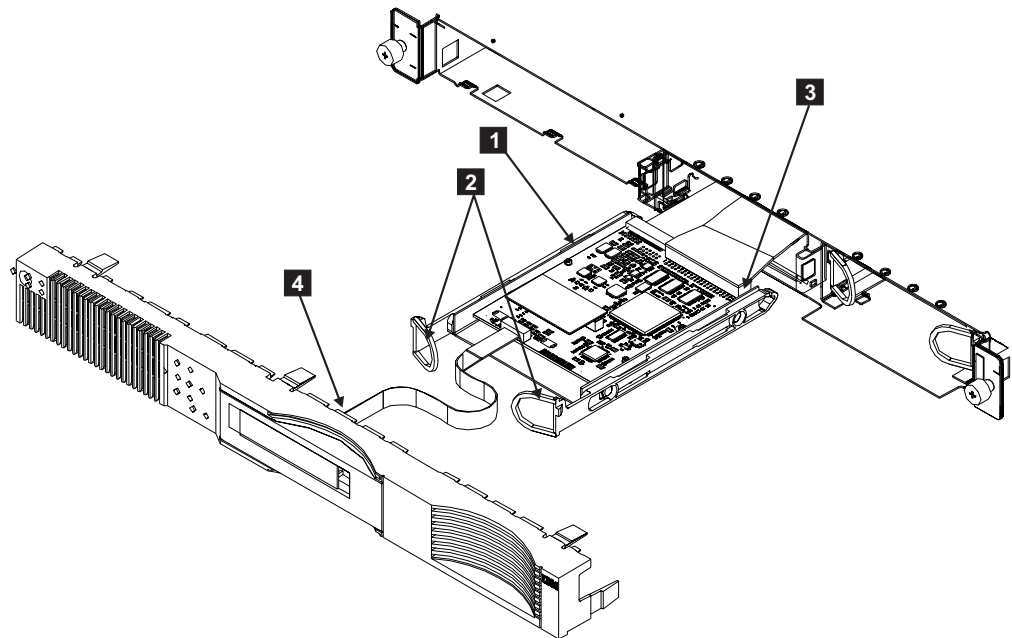

Figure 146. The SAN Volume Controller 2145-4F2 service controller
1. Carefully push the service controller (1 in Figure 146) into the SAN Volume Controller 2145-4F2.